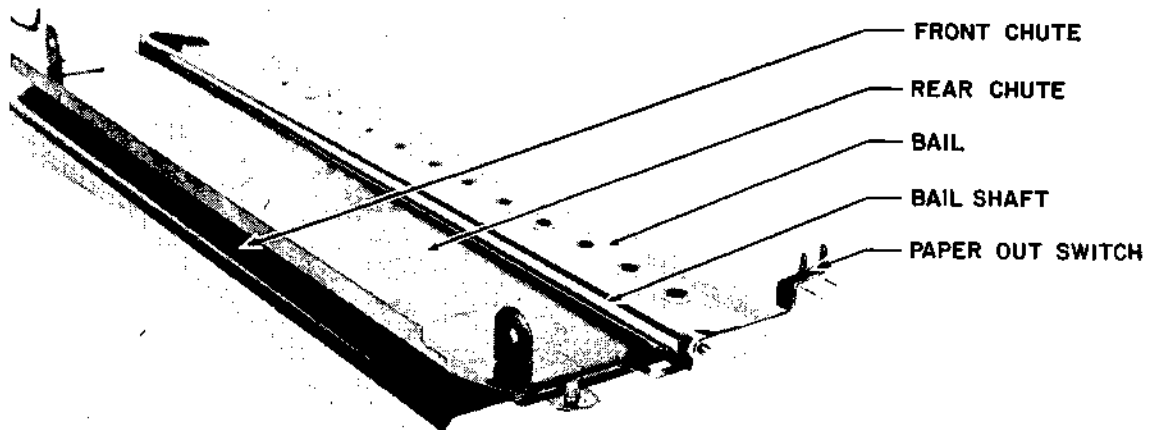

Figure 5-41 REAR TO FRONT CHUTE ASSEMBLY
3. Study Figure 5-41. Lay the rear chute on the lower part of the front chute. Drive two 8-32 x 1/4" thread forming screws through the lower slots in the front chute into the holes in the rear chute. Make sure the bottom (flared) edges of the two chute parts are even, and tighten the two screws.